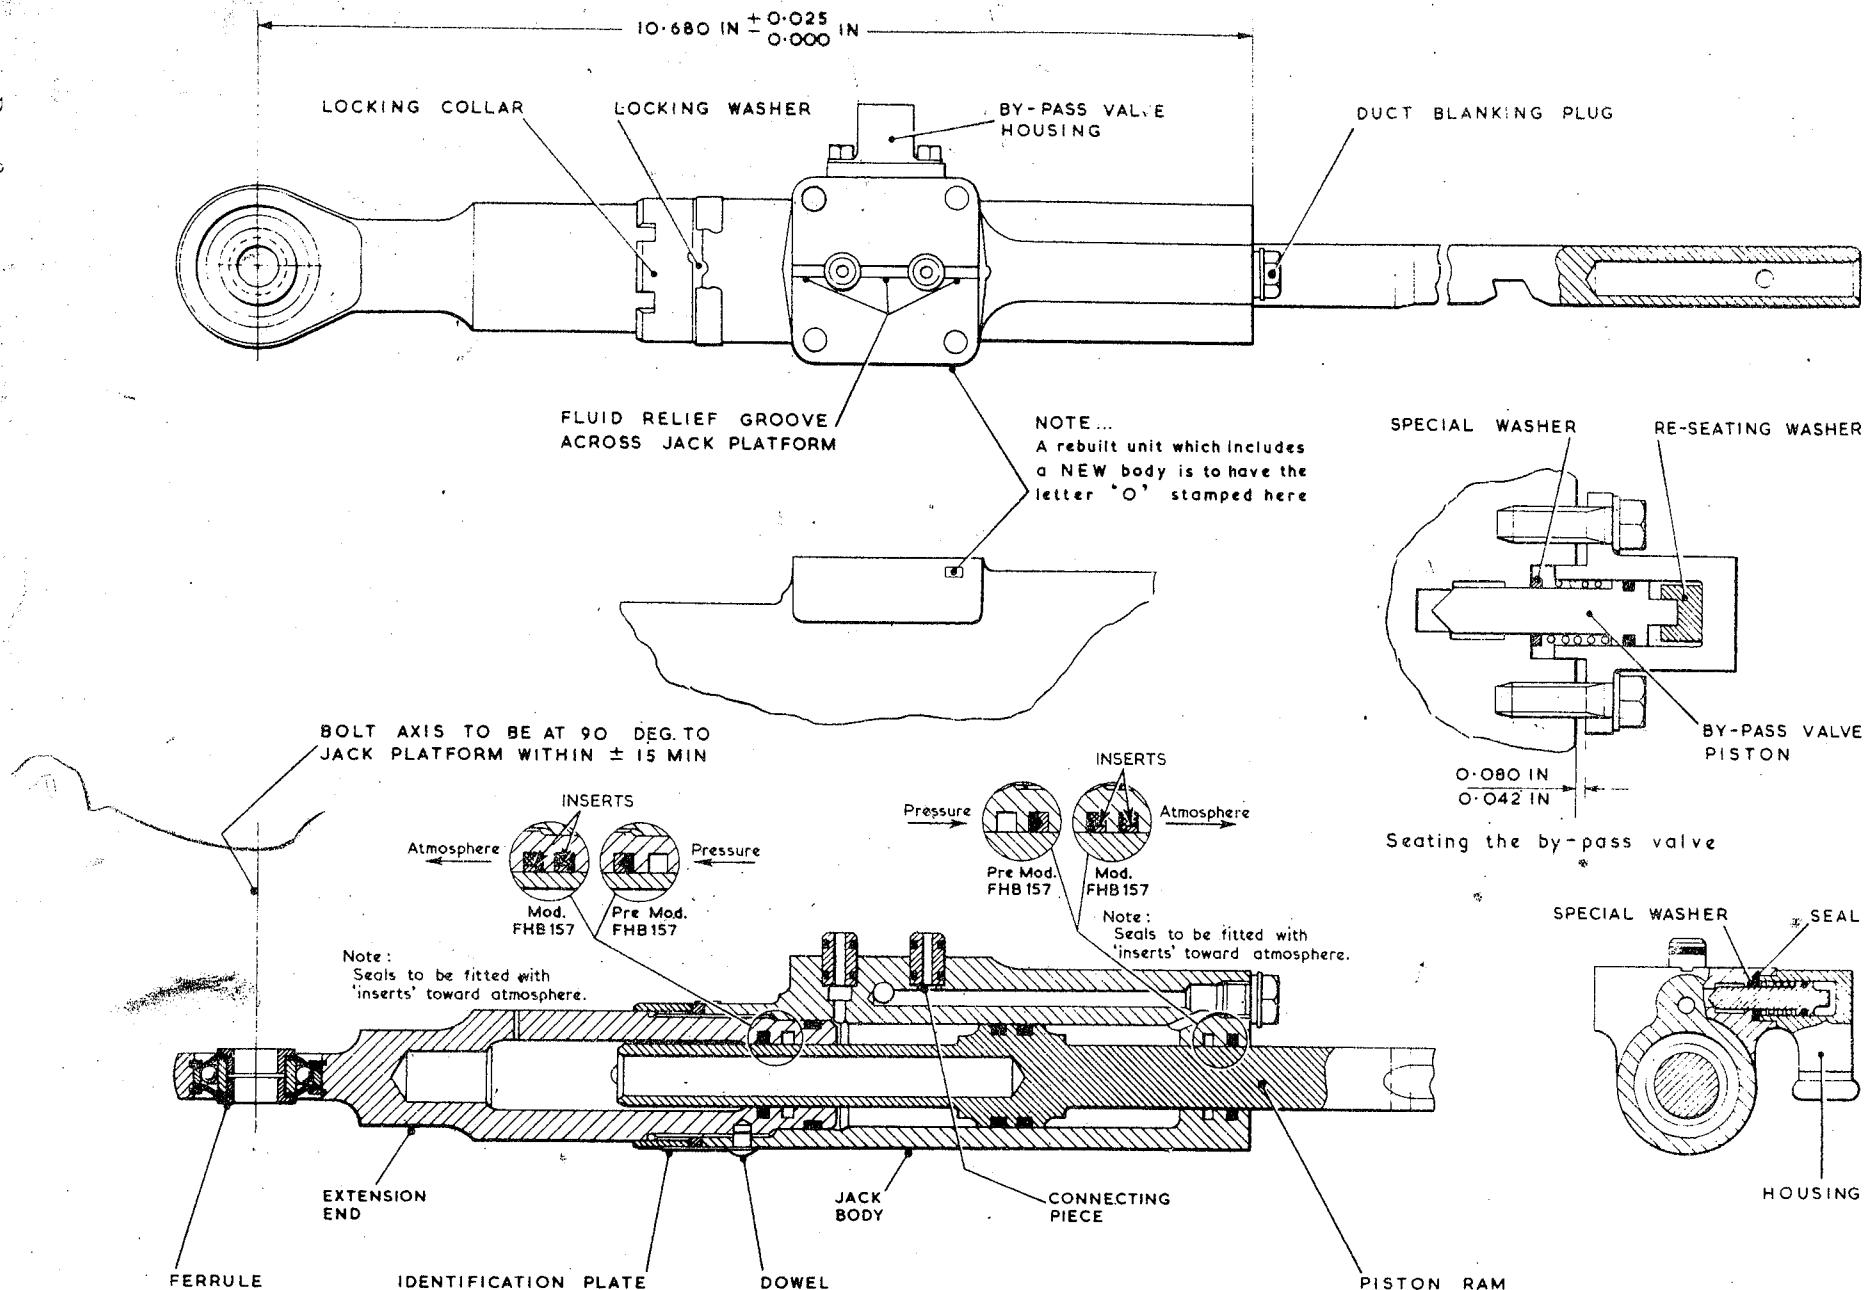

Fig. 1 Jack AH 25999
(1) Ensure that the valve piston and seat are clean and free from visual defects.
(2) Position the re-seating washer FHQ 2284 in the valve housing (fig. 1) and insert the valve, complete with seal and spring, into the housing.
(3) Position the special washer in the jack body counterbore, assemble the valve and housing to the jack, and with the securing bolts screwed down finger tight only, check the clearance between the housing and the jack body. If the clearance is within the limits given (fig. 1), then proceed in accordance with operation (4) of this paragraph. Should the clearance not be within these limits, then the procedure given in A.P. 105D-1305-6, is to be adopted.
(4) Continue to tighten the bolts evenly but not more than is necessary to achieve a satisfactory seating. In doing this, the clearance between housing and body must not be reduced by more than 0.010 in, and
(1) Screw the locking collar on to the extension end and position the locking washer.
(2) Slide the ram into the jack body and screw in the extension end.
(3) With the aid of setting jig FHQ 160 or the dimensions given (fig. 1), set the position of the extension end and align its eye end. Using hook spanner FHQ 110/4 tighten the locking collar but do not peen the locking washer.
(4) Remove the jack from the jig and ensure that the ram will stroke and rotate freely at all positions of the stroke.
(5) Drill into the extension end through the existing hole in the jack body; drill  $\frac{3}{16}$  in dia 0.23 in deep, measured from the surface of the jack body.
(6) Dismantle the jack in preparation for final assembly.
(2) Well moisten four new ram seals with hydraulic fluid and carefully fit two into the jack body and two into the grooves of the extension end bore. Ensure that these seals are fitted so that their white inserts are toward atmosphere when the jack is assembled, as illustrated in figure 1.
If the rubber/fabric (pre Mod. FHB 157) type ram seals are still being used, then only two are fitted, one in the jack body and one in the extension end. These seals are fitted in each case with the rounded rubber face to pressure and the flat fabric face to atmosphere (fig. 1).